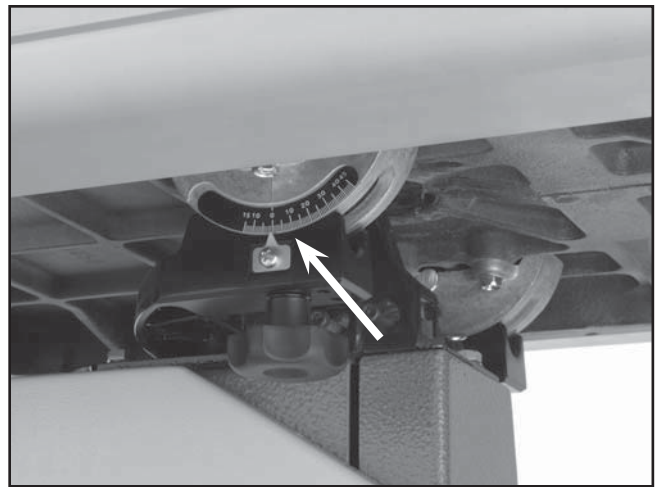

Figure 24. Table tilt scale.
2. Loosen the screw on the pointer (**Figure 24**), but do not remove it.